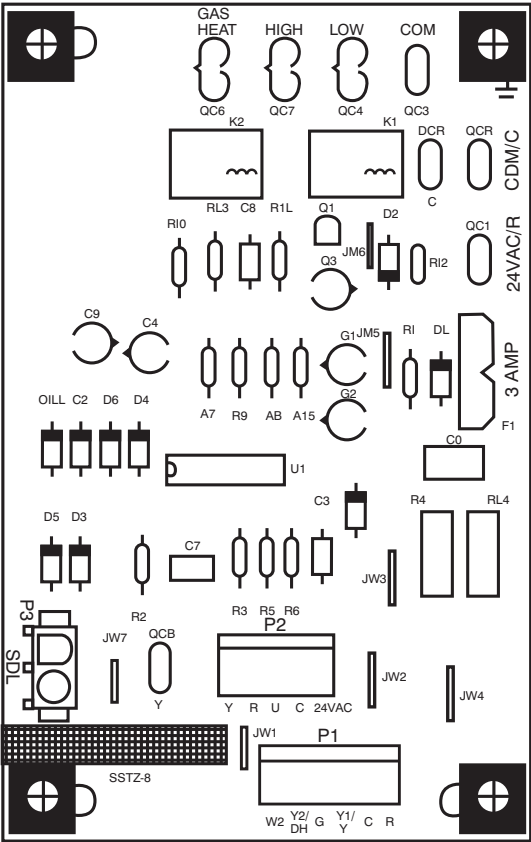

Fig. 23 – Interface Fan Board (IFB)
This unit is factory-set for use with a single cooling fan speed. For single phase models, the cooling speed is marked "COOL" on the IGC (See Fig. 22). For 3-phase models, the cooling speed is marked "LOW" on the interface board (IFB) (See Fig. 23). The factory-shipped settings are noted in Table 10 and Table 11. There are up to 3 additional speed tap wires available for use in either gas heating mode, cooling mode, or continuous fan mode (For color coding on the indoor fan motor leads, see Table 8). For single phase models, one of the additional speed tap wires is connected to the continuous fan, with the other 2 wires shipped loose in the control box near the IGC. For three phase models, the additional 3 speed tap wires are shipped loose with vinyl caps and are located in the control box near the interface fan board (IFB) (See Fig. 23).
2. Remove the current speed tap wire from the “GAS HEAT” terminal on the interface fan board (IFB) (Fig. 23) and place vinyl cap over the connector on the wire.
2. Remove the current speed tap wire from the “LOW” terminal on the interface fan board (IFB) (See Fig. 23) and place vinyl cap over the connector on the wire.
1. Remove fan speed tap wire from the “LOW” terminal on the interface fan board (IFB) (See Fig. 23).
When the DEHUM feature is not used, the continuous fan speed will be the same as cooling fan speed. When the DEHUM feature is used, the continuous fan will operate on IFB “LOW” speed when the DH control lead is not energized, or IFB “HIGH” speed when the DH lead is energized (see Fig. 23).